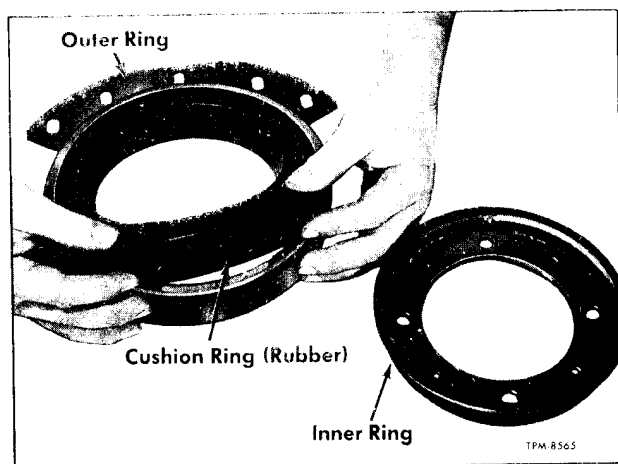

Figure 36—Replacing Compressor Rear Mounting Rubber Ring
1. Before installing compressor, examine compressor front and rear rubber mountings. If mounting rubber sections are deteriorated, or collapsed they should be replaced. Referring to figure 36, compressor rear mounting rubber ring can be replaced in manner shown. Replacement of ring can be performed with outer steel ring installed.